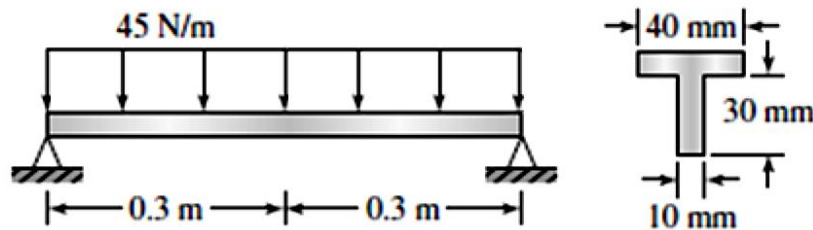

Fig.3
5. Consider the beam shown in Fig.3 below. The beam is made of mild steel of grade 40C8 having Modulus of Elasticity 200 GPa and Yield Strength 380 MPa . Under the given loading and boundary conditions determine the global stiffness matrix and hence construct the final FEA formulation to determine deflection of the beam at mid of Uniformly Distributed Load (UDL). Also write down the necessary FEA formulation to determine stresses in the beam at the above-mentioned point. Consider Poisson's ratio as 0.31 . Take 2 equal elements. You need not solve the equations.